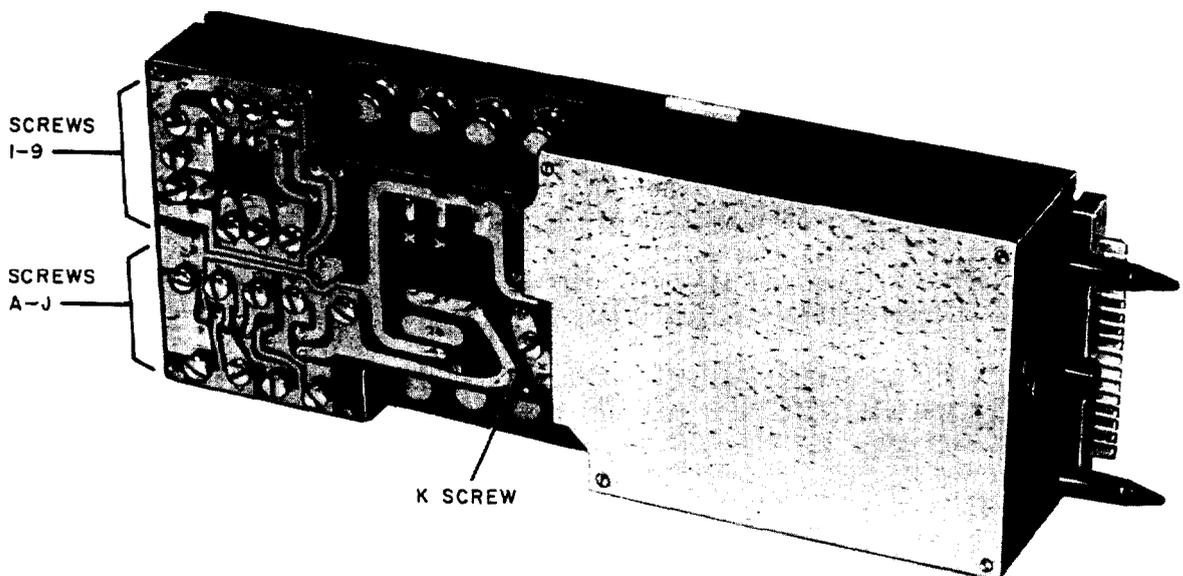

Fig. 3—831-Type Network
2.05 The repeater should be turned over and all screws on the 831-type network should be loosened three turns. These will be labeled A through K and 1 through 9 (see Fig. 3).